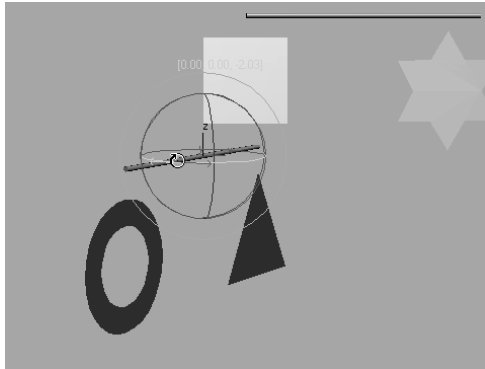

Figure 2.27
- Move the Time slider to frame 50. Click the Rotate tool (or press the hotkey E for the Rotate tool), and select and rotate the bottom bar (which will also rotate the triangle and donut shapes beneath it). You can rotate the bar in either direction on the Z-axis, as shown in Figure 2.27. Give it a few full rotations all the way around. Don't be shy.